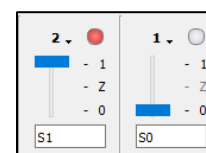

Figure 6: Switches
**Switches:** Configure Digital I/O signal 1 into a switch by selecting 1, Switch, Push/Pull (1/0) as seen in Figure 6. Also configure Digital I/O signal 2 into a switch. When the switch is at 0, it outputs 0V. When the switch is at 1, it outputs 3.3V. Move the switch and observe the dot in the upper right hand corner. These switches can be used in place of a DIP switch and SIP resistor package.